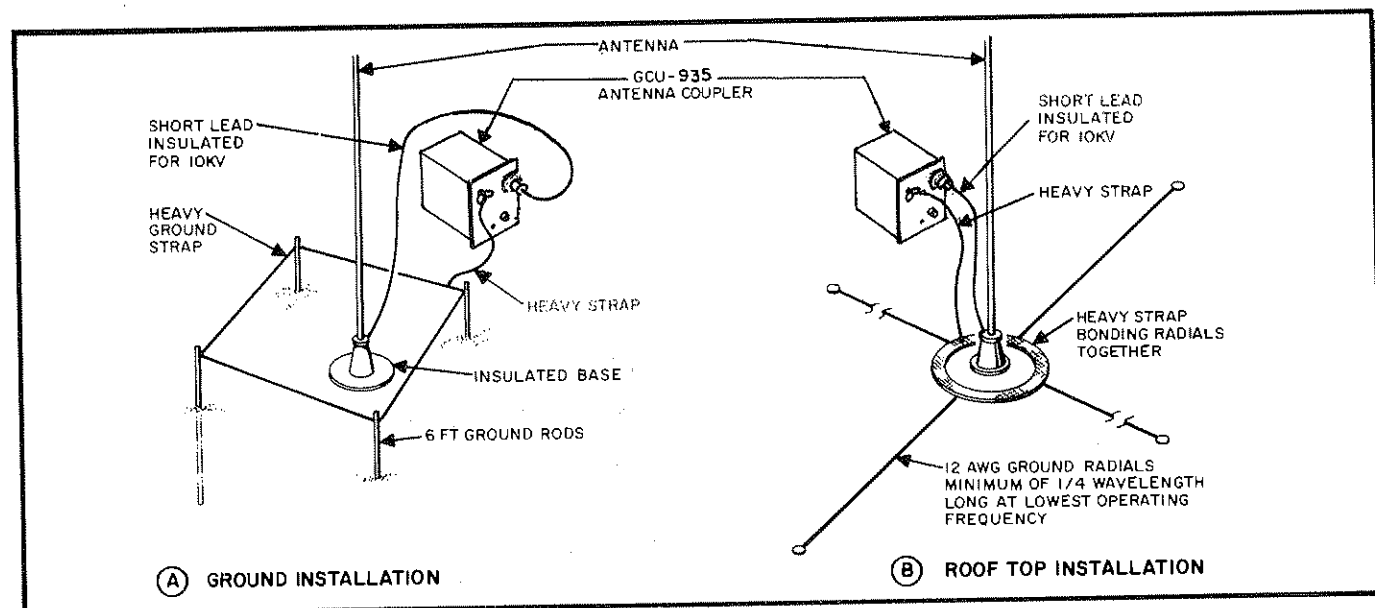

Figure 2.7 Whip Antenna
- c. When using whip antennas, the ground system actually forms part of the radiating system. Where space permits (such as in a base station installation) a good ground plane or radial system should be installed at the base of the antenna. (See Figure 2.7)
Whips and long wires are popular non resonant antennas. The whip antenna (illustrated in Figure 2.7) is often used in mobile, marine, portable or semi portable installations because it is rugged and self supporting. The antenna impedance is strongly dependent on the operating frequency and an antenna coupler, therefore, must be used to match the antenna to the transceiver. Best radiation efficiency will be obtained if the antenna is at least 1/8 wavelength long at the lowest operating frequency; however, this requirement does not result in a practical size antenna for low frequency operation. Thirty-five foot whip antennas offer a good compromise between practical height and good electrical performance at low frequencies. The GCU-935 Antenna Coupler is designed to efficiently match whip antennas of 15 foot length or greater. An efficient match may also be obtained for a 9 foot whip above 4 MHz. The whip's performance is greatly influenced by its ground system. For temporary base station installations, a minimum of four six foot long ground rods should be driven into the ground symmetrically placed around the antenna base. The rods should be bonded together with heavy strap and then connected to the antenna coupler ground by another short heavy strap. If the antenna is mounted on the roof of a building, where a short ground lead to the coupler cannot be obtained, a minimum of 4 symmetrically placed